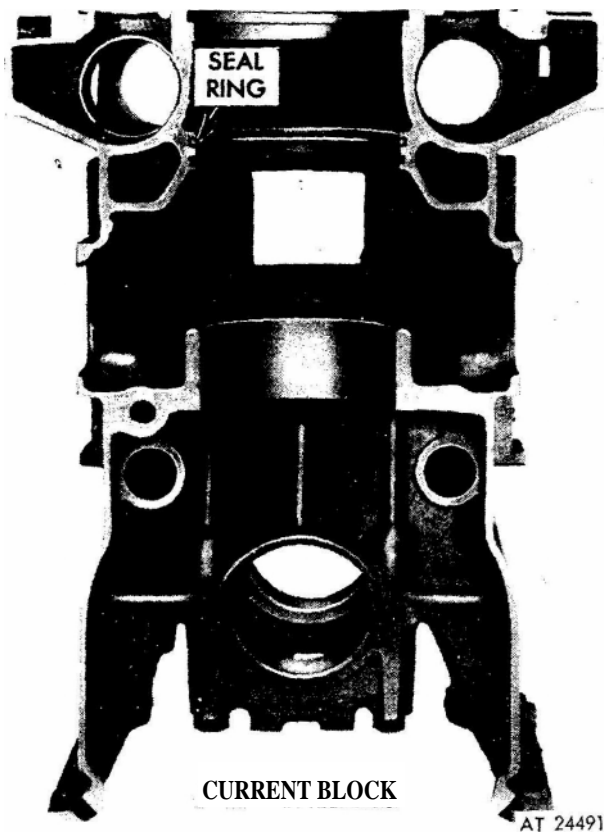

Figure 8. Location of block bore seal ring grooves.
a. Make sure the seal ring grooves (fig. 8) are thoroughly clean. Then, inspect the grooves and lands for evidence of pitting and erosion. Two grooves are provided above the air inlet ports of each cylinder bore in the block. However, a cylinder liner seal ring is required in the upper groove only. The lower groove is provided for the seal ring if inspection reveals extensive pitting or erosion along the upper land or inner surface of the upper groove. If both grooves are eroded to the extent that sealing is affected, then the block must be replaced.